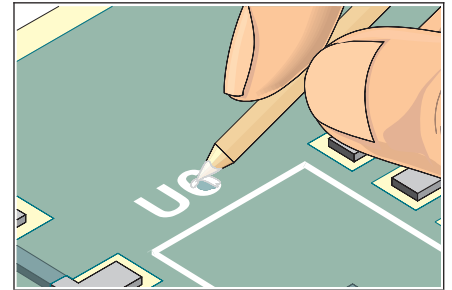

Figure 1 Apply legend using a wood stick dipped in epoxy ink.
4. Sharpen a wood stick and dip the pointed end into the epoxy ink. Hand letter the legend or markings as needed. (See Figure 1.)